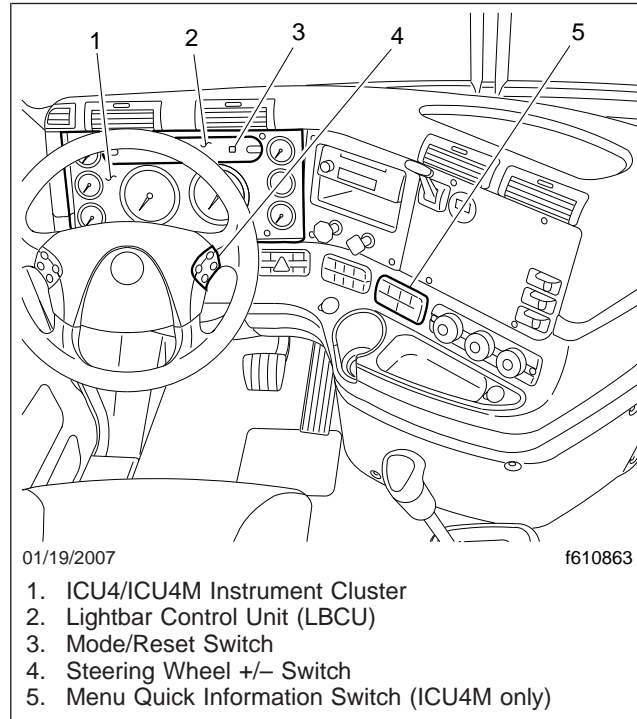

Fig. 2, Cascadia Dash
2. Turn on the ignition key. After a few seconds, the message center will display "FASTEN SEATBELTS" and the odometer reading. See Fig. 2.